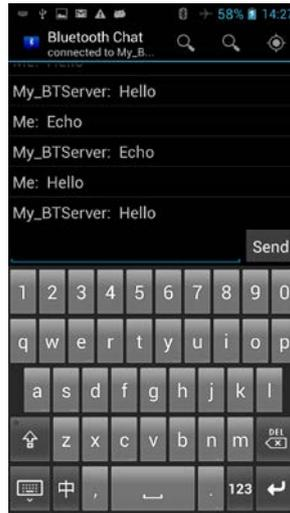

Figure 38 The entered text echoed back from LinkIt ONE
- 3) Now type the content to be sent to LinkIt ONE and you should see it return back from LinkIt ONE, as shown in Figure 38.